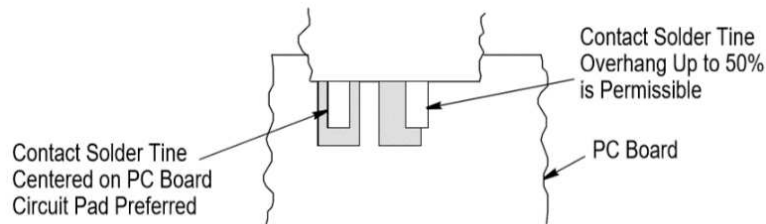

Figure 10
- ii. Surface Mount Connectors Optimally, the contact solder tines should be centered on the PC board circuit pads. However, slight misalignment is permissible as shown in Figure 10